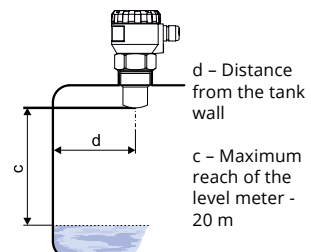

Fig. 3: Installation distance from the tank wall
- The min. **dimensional parameters** to install the level meter into a lid or a ceiling of a tank are given in Fig. 3.